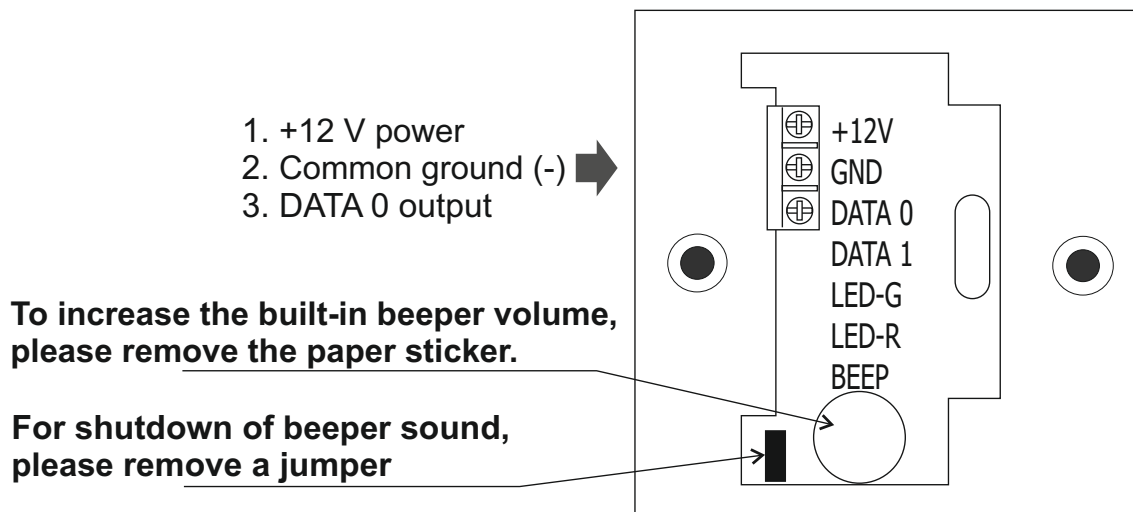

Figure 1. Connection layout.
- Connect the wires to reader socket per connection scheme (Figure 1);
When reading the token serial number, the buzzer is sounding. To disable the buzzer, remove the jumper on the reader PCB. (See Figure 1)